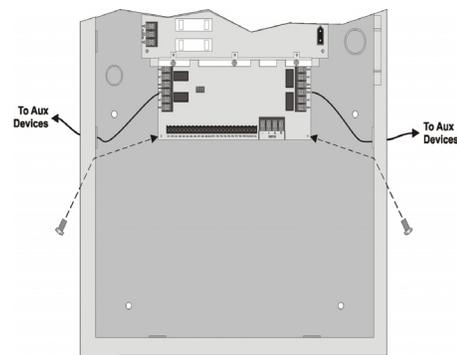

Figure 3: Installing the 5280 into the 5208 Cabinet
2. Mount the SK-5280 onto the standoffs and bracket located in the cabinet. See Figure 3.